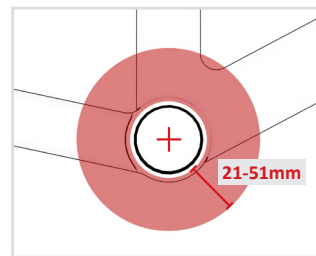

FIG. 7
- Make sure the magnet is positioned between 21-51 mm from the center point of the bottom bracket shell. (Fig. 7).